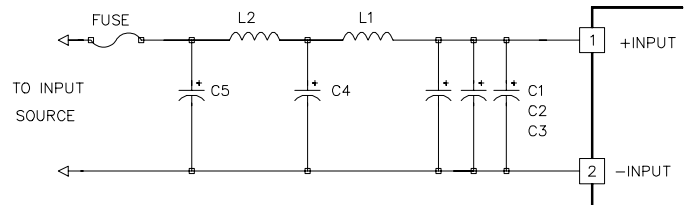

Figure 2. Input Filter and Fuse
- Noise is measured per CALEX Application Notes. Peak to Peak measurement bandwidth is 0 - 20 MHz. RMS measurement bandwidth is 0.01 - 1 MHz. Output noise is measured with a 10 μF tantalum capacitor and a 0.01 μF ceramic capacitor located 1 inch away from the converter. Input Reflected Ripple is measured with the external filter C1, C2, C3, and L1 connected to the input pins as shown in figure 2.
The 12S5.7000CD requires a low impedance source to supply power to the input pins. The impedance must be less than 15 milliohms from DC to about 250 kHz. The unit may be damaged without the low impedance source. This can be achieved by an external input filter circuit (See figure 2). The components must be mounted near the 12S5.7000CD converter input pins, within 2 to 3 inches is satisfactory.